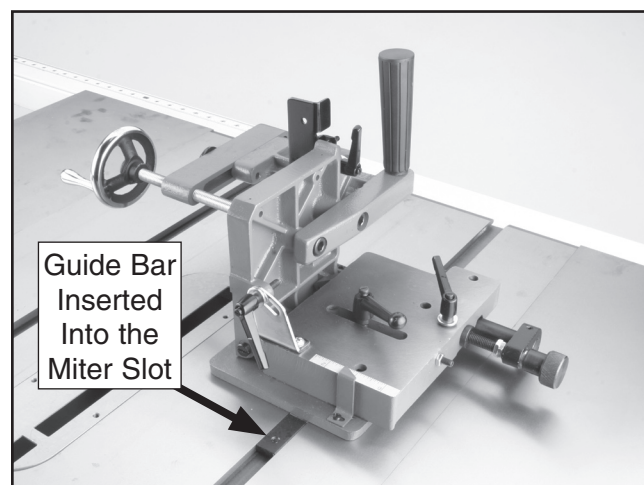

Figure 4. Installed jig.
5. Insert the jig guide bar into the miter slot in the table-saw table (**Figure 4**), and perform **Guide Bar Adjustment** on **Page 11**.